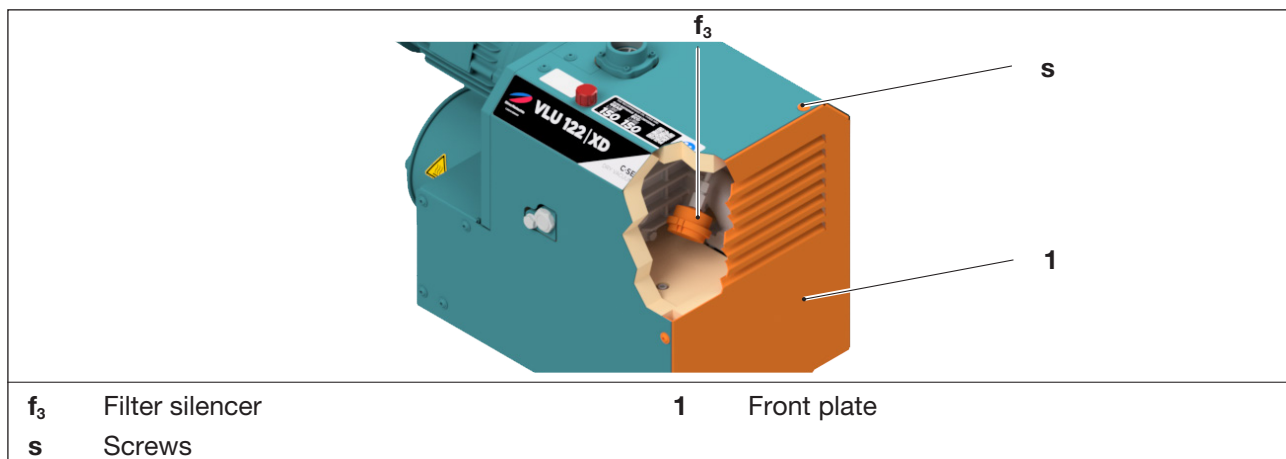

Fig. 7 Filter silencer
- Remove the screws (Fig. 7/s) from the front plate (Fig. 7/1) and take off the front plate.
- Unscrew the filter silencer (Fig. 7/f₃).